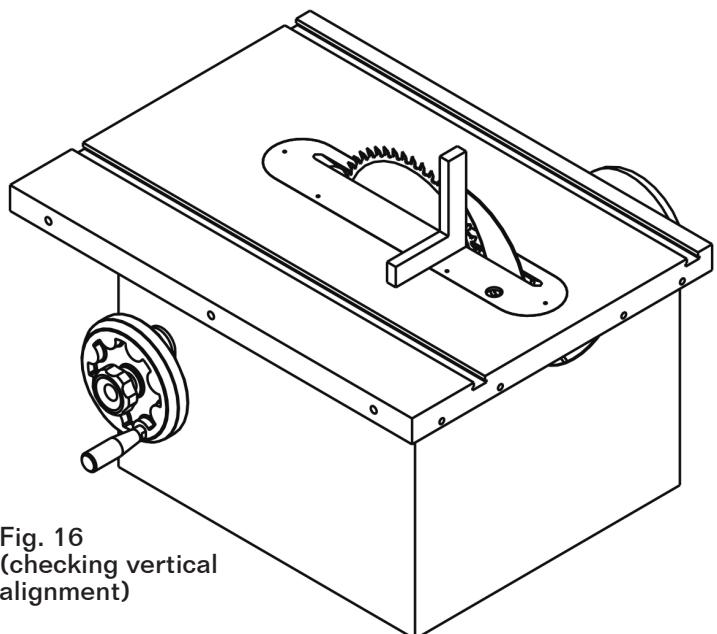

Fig. 16
4. Place a machinist's square flat on the table and slides it against the riving knife as shown in Figure 16: